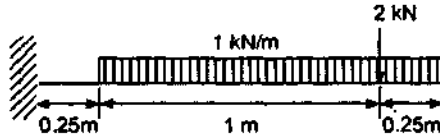

Fig. 2.
Q. 2(b) Calculate the values of shear force and bending moments for the cantilever beam shown in Fig. 2. Also draw the shear force and bending moment diagrams.